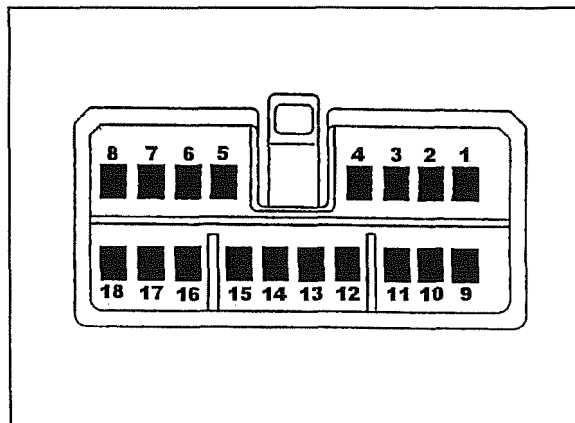

Fig. 46
2. Switch the dashboard on and following Fig. 46 showing the numbering for the multiple wire central unit connector, take the following readings with the tester: